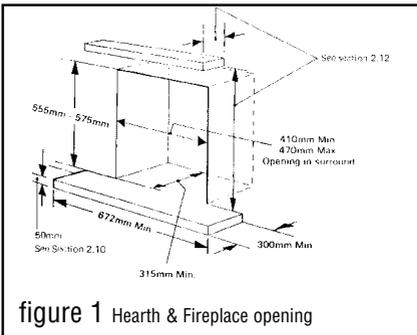

figure 1 Hearth & Fireplace opening
2.2.1 To a fireplace complete with surround and hearth as shown in figure 1 and complying with BS1251 after removal of the fireback and sufficient material behind the fireback for a debris catchment space. The required fireplace, hearth, debris catchment area and clearance dimensions are shown in figure 1.